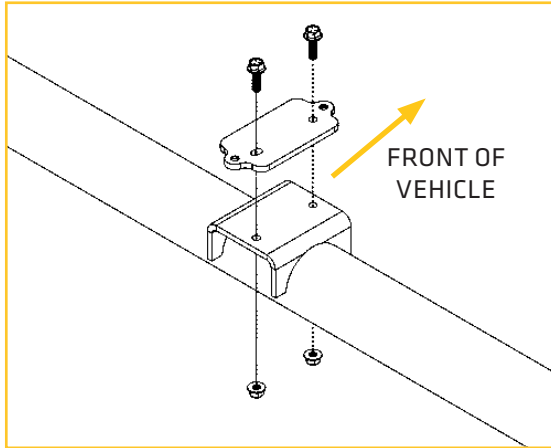

FIGURE 42 - LEFT SIDE
5. Install the lower bump stop mounting brackets using provided hardware. The countersunk holes on each tip of the bracket face down, and the bracket is attached to the frame using the two offset holes. The two offset holes will be centered with the axle bracket. Tighten to 17 ft-lbs. (FIGURES 42, 43, 44, 45, 46, 47)